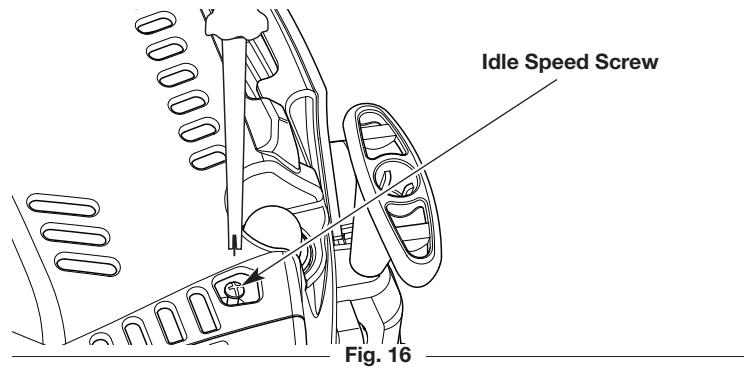

Fig. 16
2. Release the throttle control and let the engine idle. If the engine stops, use a small Phillips screwdriver to turn the idle speed screw clockwise, 1/8 of a turn at a time (as needed) until the engine idles smoothly (Fig. 16).
3. If the engine is idling too quickly, turn the idle speed screw counterclockwise, 1/8 of a turn at a time (as needed) to reduce the idle speed (Fig. 16).